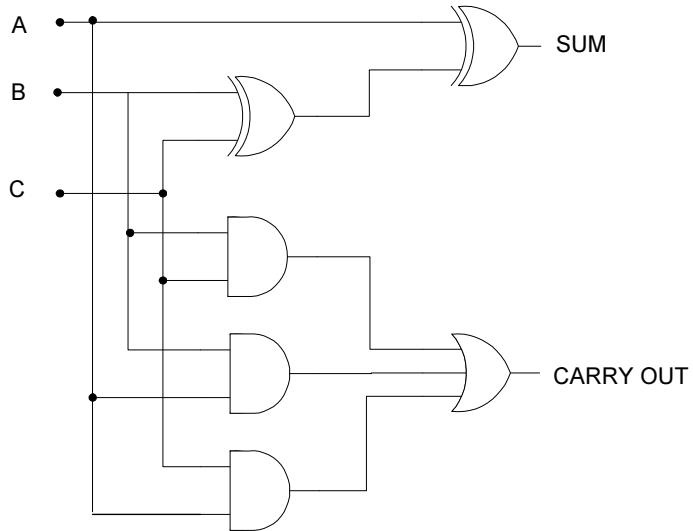

Fig. 2.3 : Complete circuitry of a full adder.
This expression cannot be simplified further. Expressions (1) and (2) can be implemented as shown in Fig. 2.3. The complete circuit with inputs A, B and C and outputs S and carry out represents the full adder.